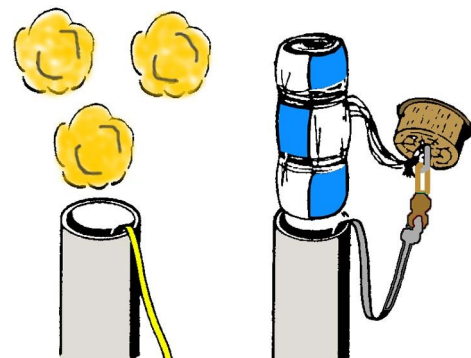

Figure 12
- **Step 25** Using Figure 12 as a guide, select either a pre-packaged flameproof recovery wadding, or flameproof cellulose insulation (shredded newspaper treated with a flameproof chemical, such as boric acid), to form a gas seal between the top of the motor and the parachute. Usually, three sheets of the wadding, crumpled into loose balls, or about 2" of the shredded material, is enough to do the job. Push the material down through the body tube but do not pack the material tightly. The material only needs to provide a barrier to the hot gases and burning particles released by the motor at deployment, and must be able to come out easily. Insert the shroud lines first, followed by the folded parachute, and finally the nose cone. Adjust the fit of the cone with bits of